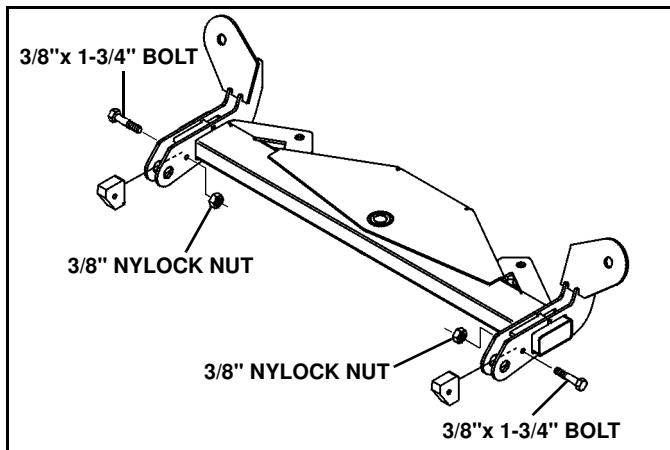

Figure 1-1
2. Place stops between the lugs on the swing frame. Secure with 3/8" x 1-3/4" bolts and locking nuts. (See Figure 1-1). The bolts and nuts are in the blade parts bag.